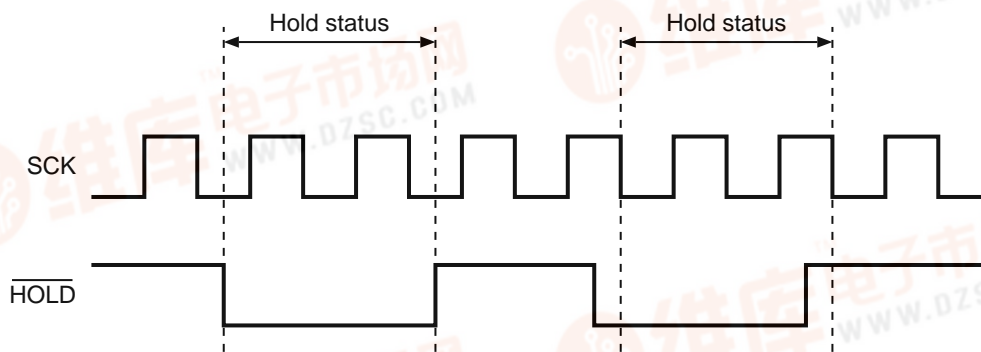

Figure 21 Hold Operation
**Figure 21** shows the hold operation. Set Hold ( $\overline{HOLD}$ ) to "L" when the serial clock (SCK) is in "L", Hold ( $\overline{HOLD}$ ) is switched at the same time the hold status starts. If setting Hold ( $\overline{HOLD}$ ) to "H", Hold ( $\overline{HOLD}$ ) is switched at the same time the hold status ends.